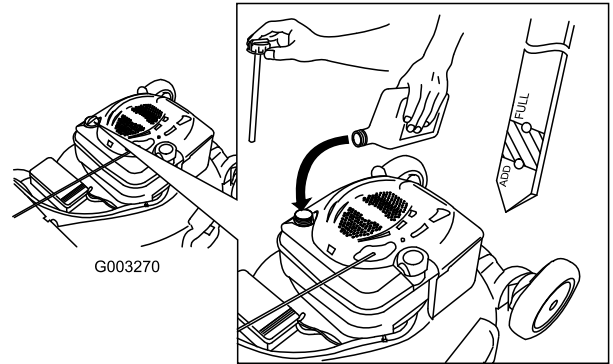

Figure 12
1. Remove the dipstick, wipe it clean, and fully install the dipstick (Figure 12).
2. Remove the dipstick and check the oil level (Figure 12). If the oil level is below the Add mark on the dipstick, **slowly** pour oil into the oil fill tube to raise the oil level to the Full mark on the dipstick. **Do not overfill.** (Max. fill: 20 oz. (0.59 l), type: SAE 30W detergent oil with an API service classification of SF, SG, SH, SJ, SL, or higher.)